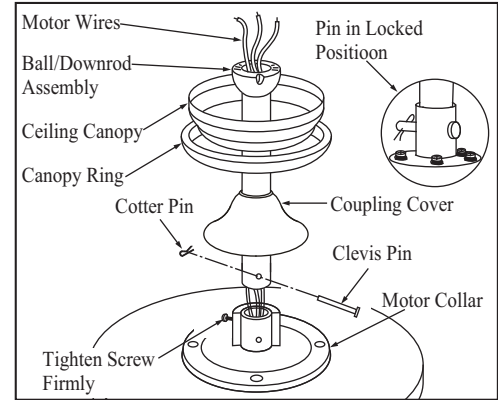

Figure 7
3. Route wires exiting from the top of the fan motor through the coupling cover and canopy ring. Make sure the slot openings are on top. Route the wires through the canopy and then through the ball/downrod assembly. (Figure 7)
5. Align the holes at the bottom of the downrod with the holes in the coupling on top of the motor housing. (Figure 7) Carefully insert the clevis pin through the holes in the collar and downrod. Be careful not to jam the clevis pin against the wiring inside the downrod. Insert the cotter pin through the hole near the end of the clevis pin until it snaps into its locked position, as noted in the circle inset of Fig. 7.
6. Tighten two set screws on top of the fan motor firmly. (Figure 7)